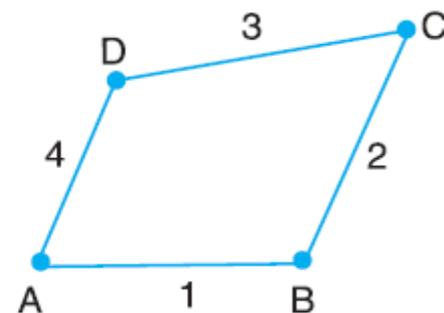

Fig. 5.10. Kinematic chain with all binary joints.
1. Binary joint. When two links are joined at the same connection, the joint is known as binary joint. For example, a chain as shown in Fig. 5.10, has four links and four binary joints at A , B , C and D .
Applying this equation to a chain, as shown in Fig. 5.10, where $l = 4$ and $j = 4$, we have